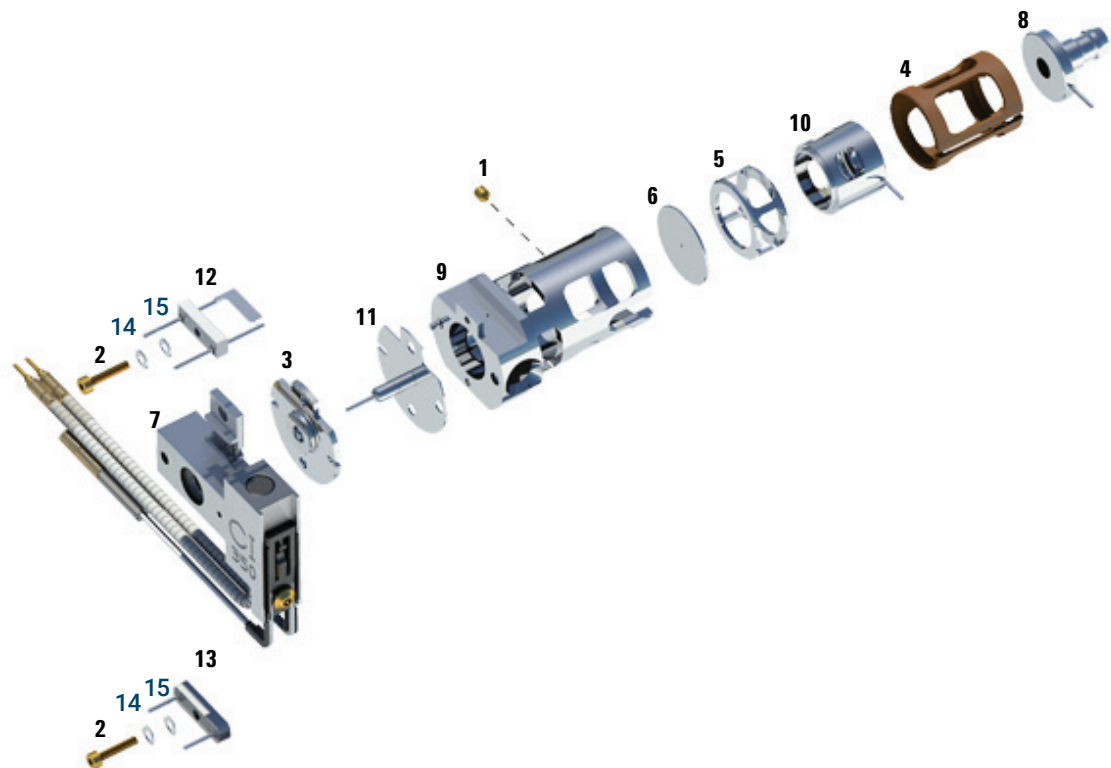

Figure 79. Disassembling the CI source
Refer to the exploded parts view and the CI source parts list while using this procedure. (See Figure 79 and Table 22 on page 240.)
- 3 Separate the source heater assembly from the source body. The source heater assembly includes the source heater, repeller, and related parts. (See Figure 79 and Table 22 on page 240.)
- 4 Disassemble the repeller assembly by removing the ceramic insulator from the repeller. (See Figure 79 on page 240.)
- 6 Pull the lenses out of the source body and separate the lens insulator, ion focus lens, drawout cylinder, drawout lens, and entrance lens. (See Figure 79 on page 240.)
Table 22 Parts list for CI source (Figure 79)
Table 22 Parts list for CI source (Figure 79) (continued)